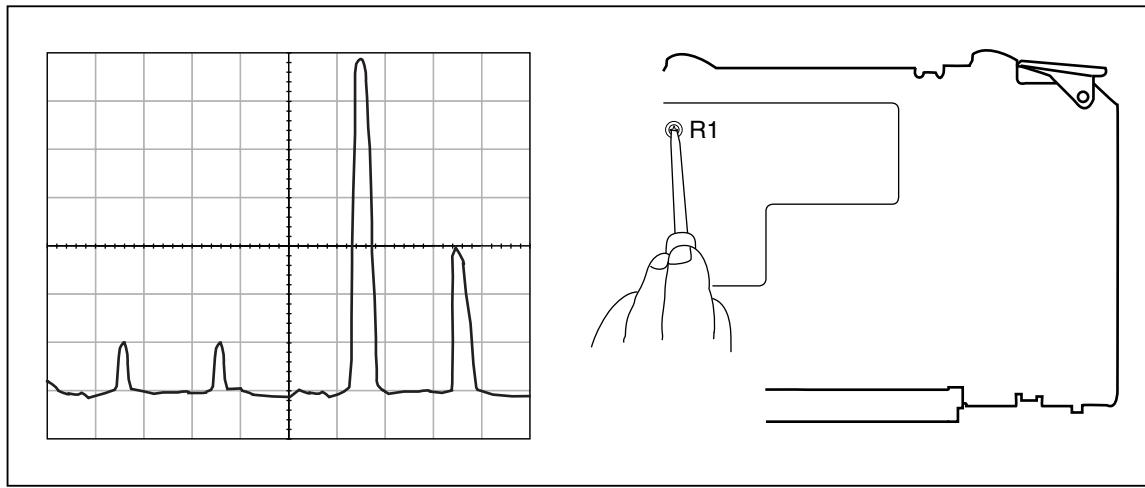

Figure 6-16. Leveled Sine Wave Balance Adjustment
3. Adjust the Spectrum Analyzer so that it shows one peak across its horizontal center line in the display. The far right of the peak is fixed at the far right of the center line, as shown in Figure 6-16.
The spectrum analyzer will show a spur at 153 MHz. See Figure 6-16 to identify the spur.